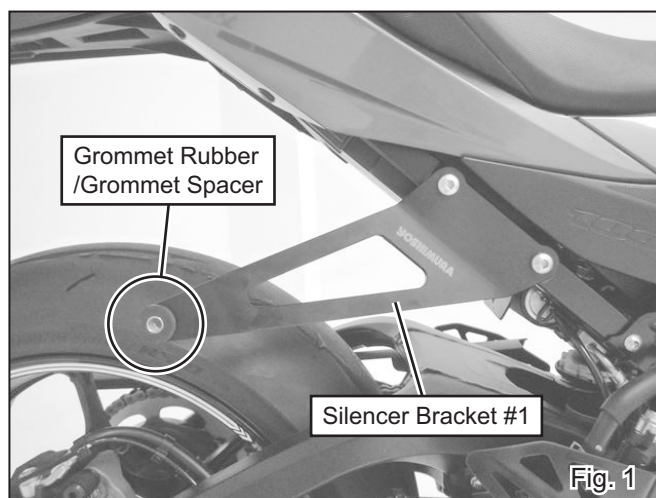

Fig. 1
- 4) Remove passenger foot peg bracket from both sides. Install Grommet Rubber and Grommet Spacer to Silencer Bracket #1. Then, mount Silencer Bracket #1 with stock bolts (See Fig. 1). Tighten and torque bolts.